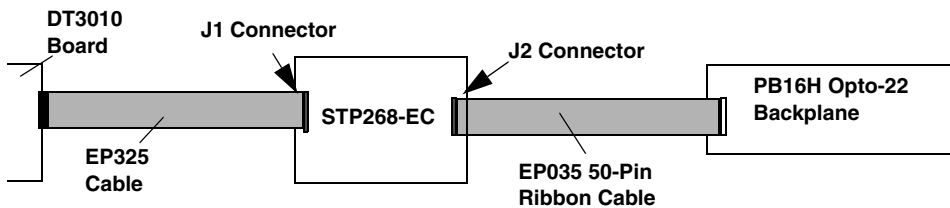

Figure 11: Connecting the PB16H Opto-22 Backplane to the STP268-EC Screw Terminal Panel
2. Plug the other end of the EP035 cable into the 50-pin connector on the PB16H Opto-22 backplane, as shown in Figure 11.